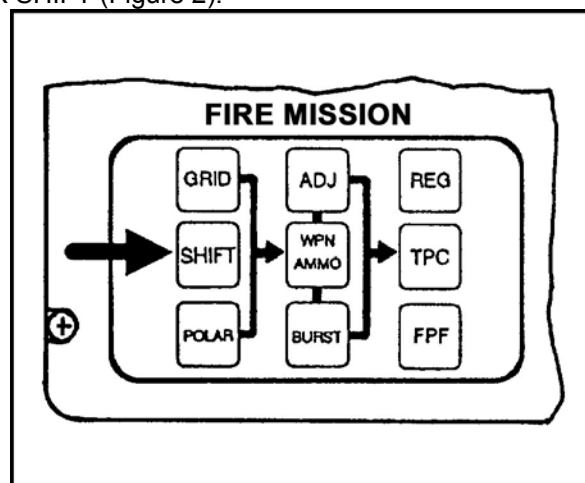

Figure 2. SHIFT switch.
2. Initiate the FDC order on the computer's record. To initialize the mission, press the SHIFT switch. The MBC displays, FR SHIFT (Figure 2).